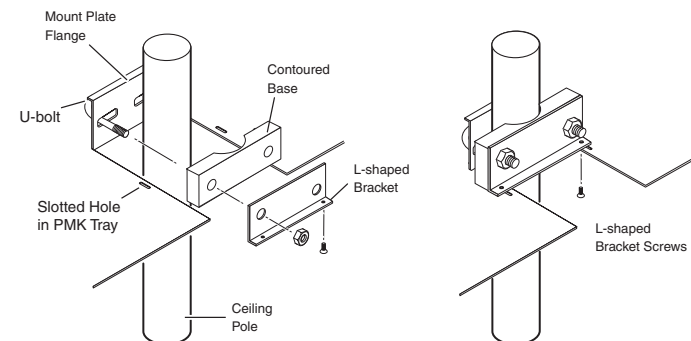

Figure 11 — Hanging the tray on the pole
6. Assemble the U-bolt and the following parts in the following order (figure 11):